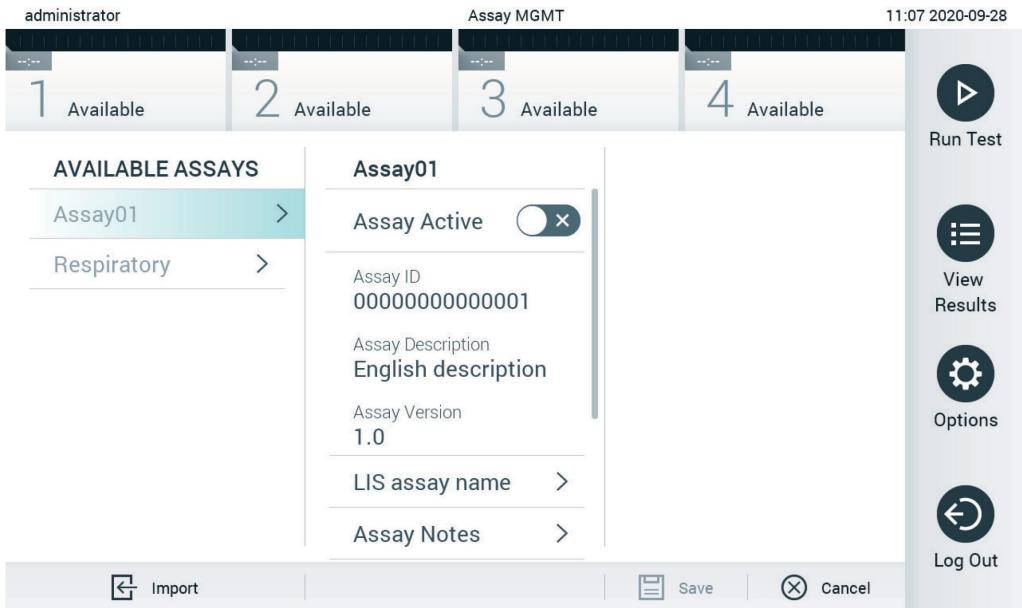

Figure 66. Assay management screen.
2. To import the new assay(s) to the QIAstat-Dx Analyzer 1.0, press the **Options** button and then the **Assay Management** button. The **Assay Management** screen appears in the content area of the display (Figure 66, next page).